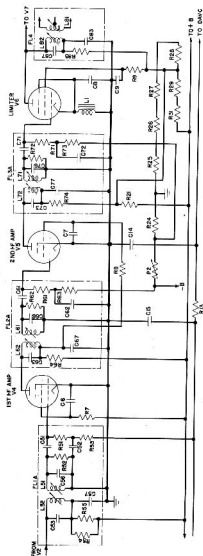

Fig. 26. Radio Receiver BC-683-A: Functional Diagram of I-f Amplifier and Limiter
d. I-f Amplifier and Limiter. The essential circuits of the intermediate-frequency amplifier and limiter stages are shown in Fig. 26. Band-pass filters FL1A, FL2A, and FL3A suppress undesired frequencies outside an 80-kilocycle transmission band which is centered at 2.65 megacycles, the intermediate frequency. Each filter is aligned by the adjustment of a magnetic core within each coil. Resistors R52, R62, and R72 in the three filters aid in securing the desired band-pass frequency characteristic.
shown in Fig. 26. Capacitors C53, C56, C63, C66, C73, C76, and C87 are all negative coefficient ceramic capacitors with a nominal capacitance of 60 micromicrofarads. In each case, the capacitor compensates for the positive temperature coefficient of the coil across which it is connected.